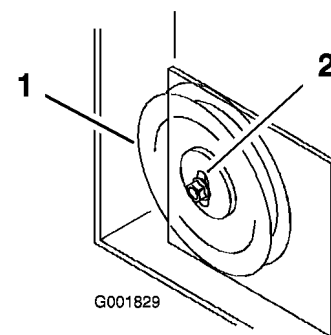

Figure 60
11. If the mower idler plate contacts the end of the adjustment slot and more belt tension is required, a small change to the right side fixed idler can create more belt tension adjustment (Figure 60).